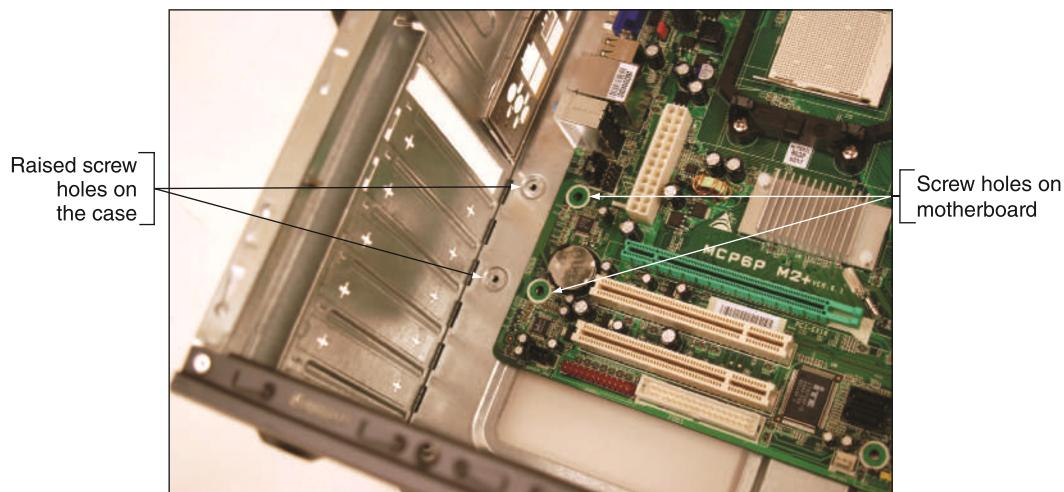
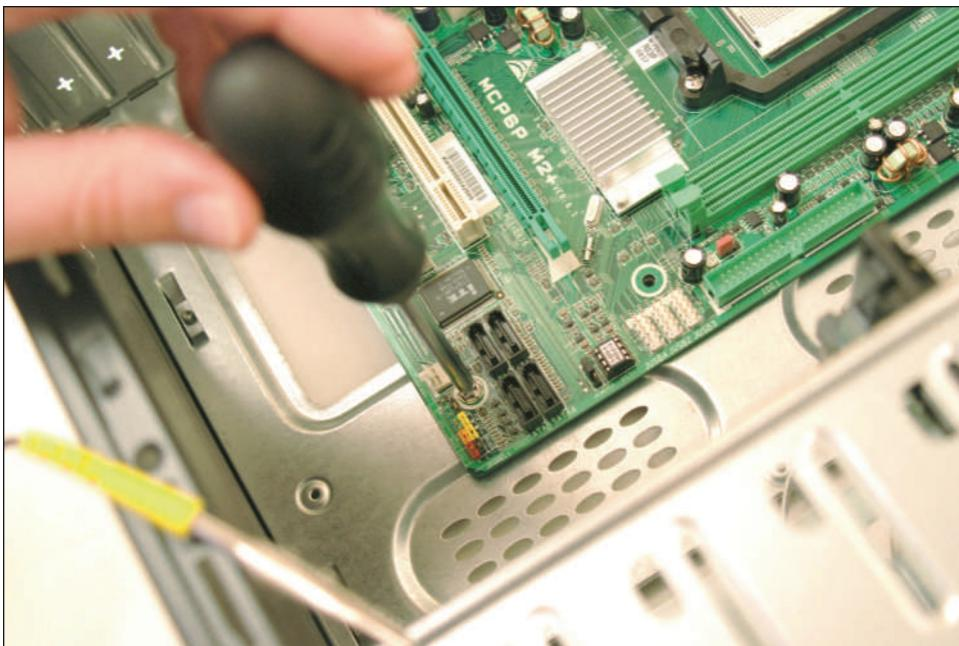

Figure 2-21 Align screw holes in the case with those on the motherboard
Figure 2-22 Use one screw in each screw hole on the motherboard
2. Place the motherboard inside the case. Make sure the ports stick out of the I/O shield at the rear of the case and the screw holes line up with screw holes on the bottom of the case. Figure 2-21 shows how you must align the screw holes on the motherboard with those in the case. There should be at least six screw sets, and there might be as many as nine. Use as many screws as there are holes in the motherboard. Figure 2-22 shows one screw being put in place.